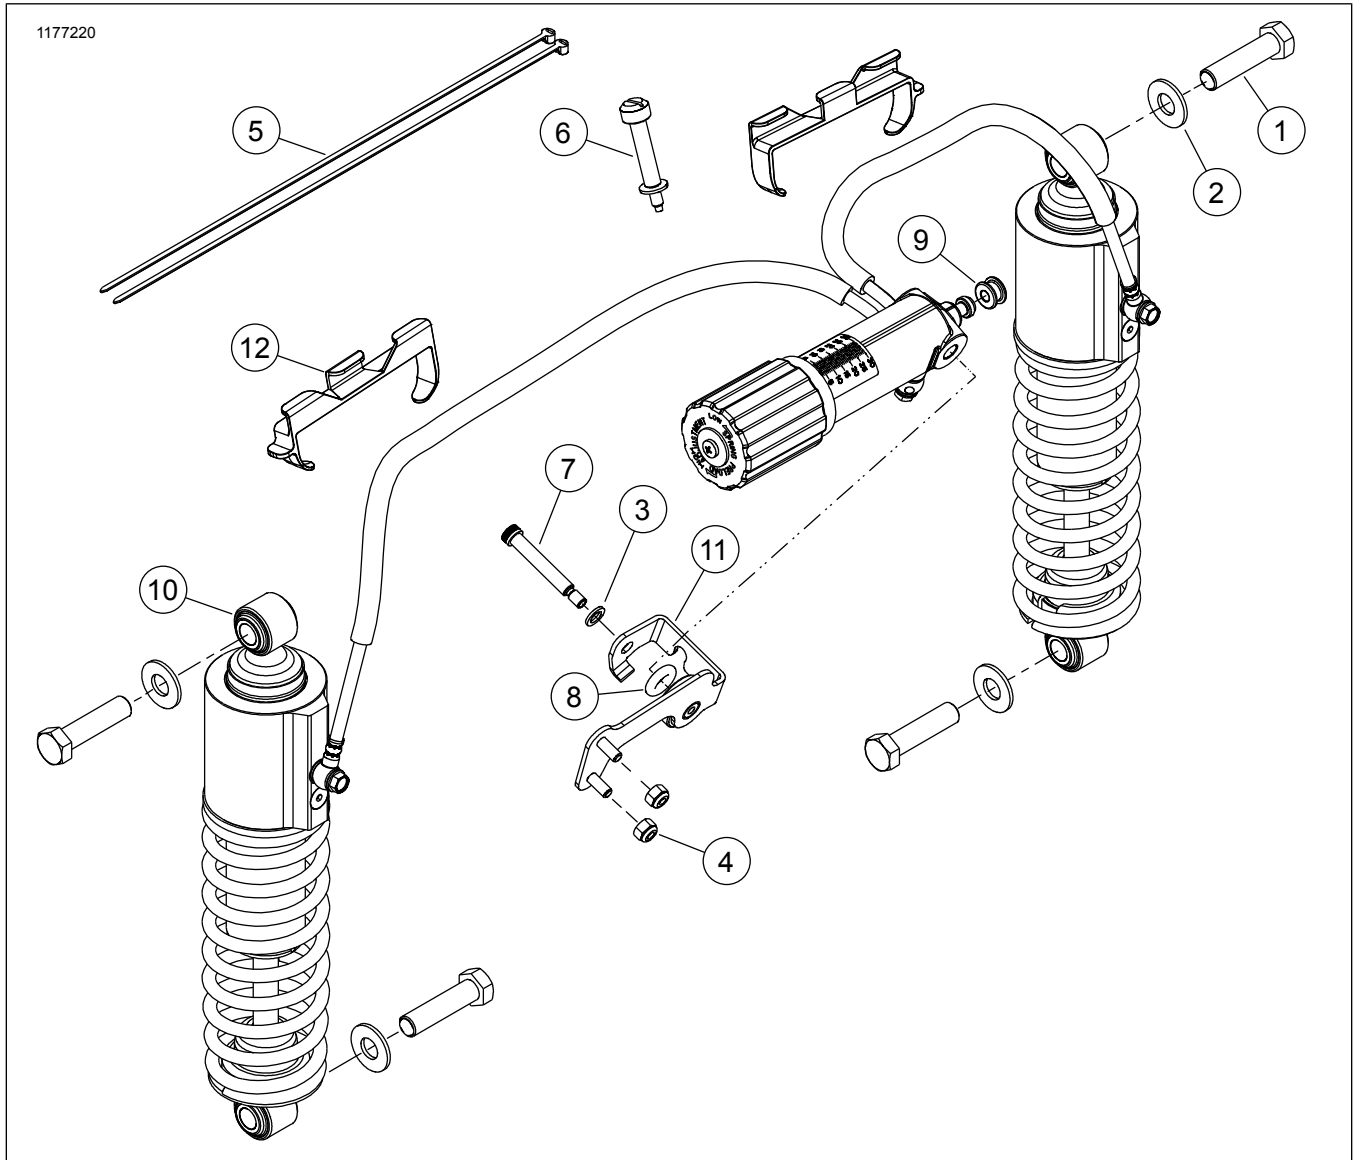

Figure 7. Service Parts
See Figure 7. Press grommet (9) onto adjuster base.
2. Place o-ring (8) inside cup in adjuster mounting bracket (11).
4. Install washer (3) and shoulder screw (7). Tighten.